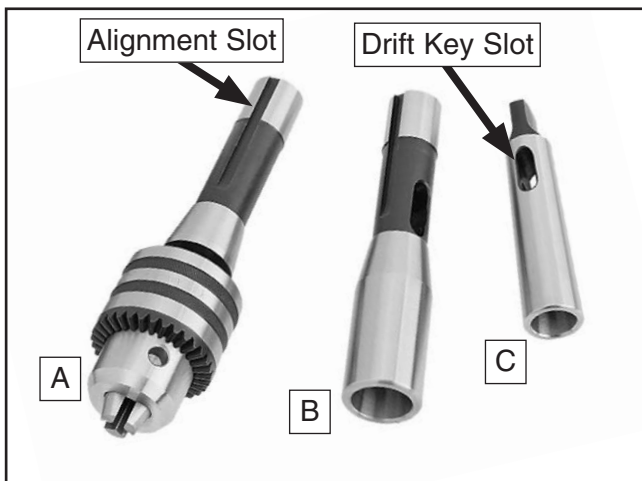

Figure 24. Drill chuck and arbors included with Model G0755.
The Model G0755 includes the following spindle tools (see **Figure 24**):
3. Align tool holder alignment slot (see **Figure 24**) with pin inside spindle, then insert tool holder into spindle until it contacts drawbar.